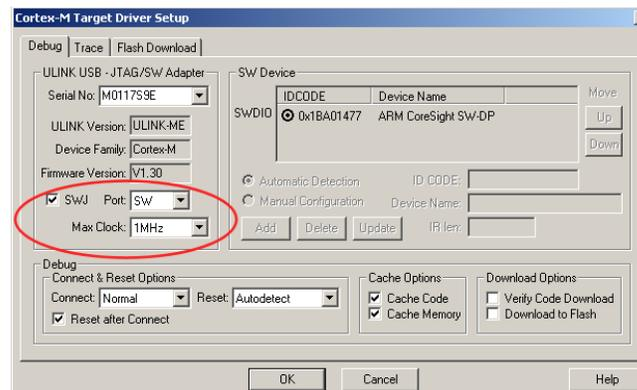

Figure 36
- 5) Click on Settings to configure the ULINK2. Figure 36 opens up.